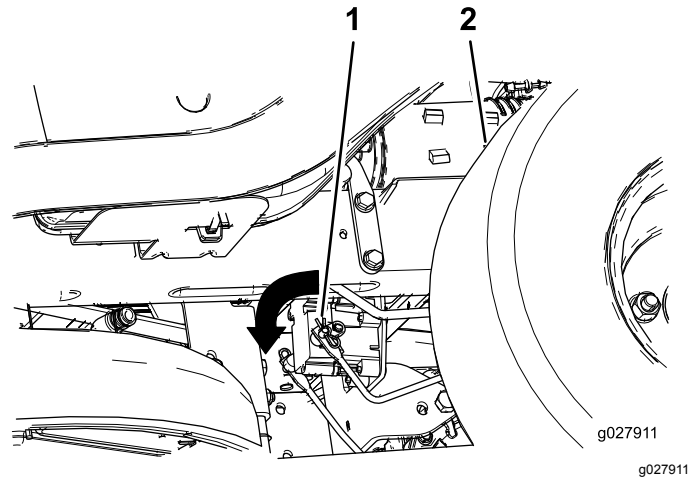

Figure 42
2. Locate the shaft on the electric brake where the brake-link arms are connected (Figure 42).